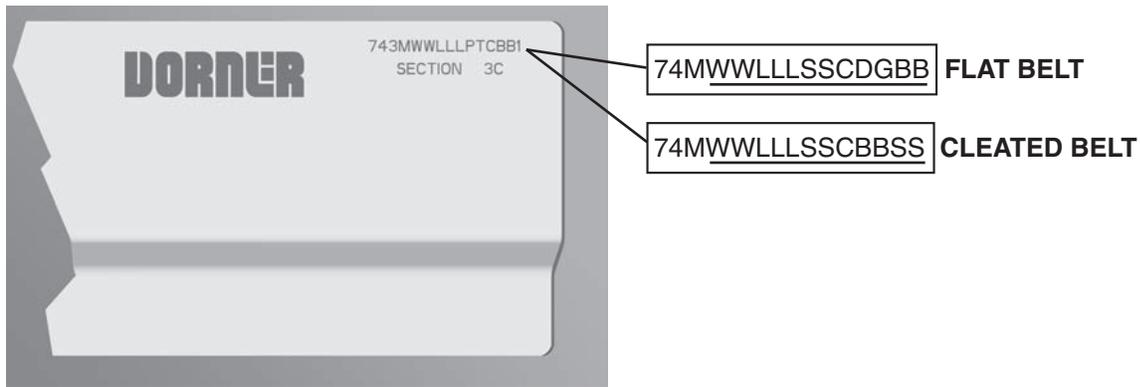

Figure 87
Refer to the model number on the conveyor frame (**Figure 87**). From the model number, determine conveyor width (WW), length (LLL), drive stand location (S), idler stand location (S), cleaning options (C), drive/pulley type (D), profile (G) and belt material (BB).
Refer to the model number on the conveyor frame (**Figure 87**). From the model number, determine conveyor width (WW), length (LLL), drive stand location (S), idler stand location (S), cleaning options (C), cleated belt material (BB) and cleat spacing (SS).